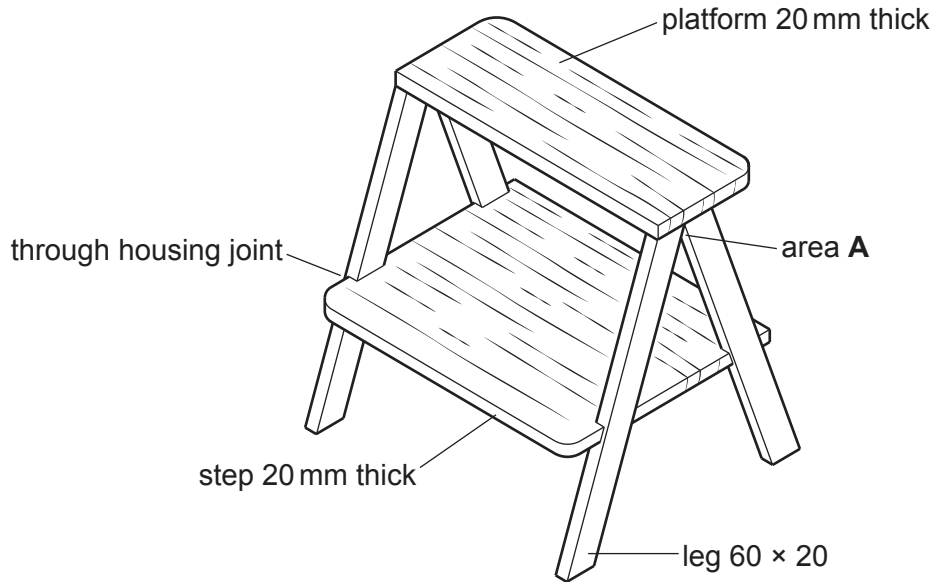
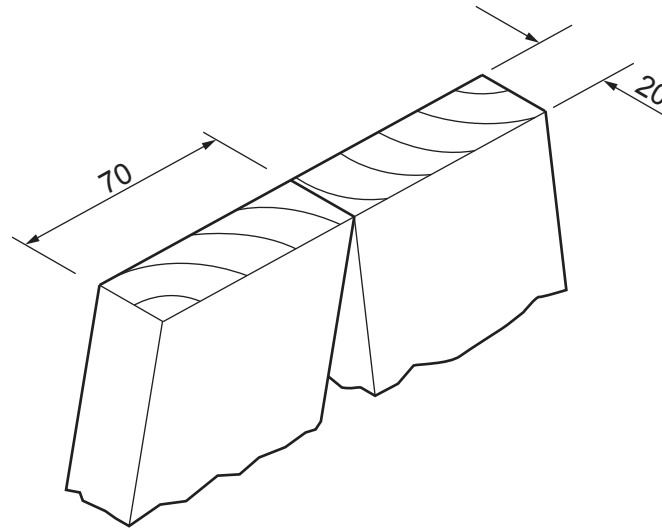

Fig. 11.1
Fig. 11.4
11 Fig. 11.1 shows an incomplete design for a step stool made from oak.
- (d) The platform shown in Fig. 11.1 will be joined to the tops of the legs using dowels. Fig. 11.4 shows the tops of two legs.
Draw on Fig. 11.4 to show:
- (e) Area **A** shown in Fig. 11.1 is weak and needs to be strengthened. Use sketches and notes to show how additional materials and constructions could be used to make area **A** stronger and more rigid.